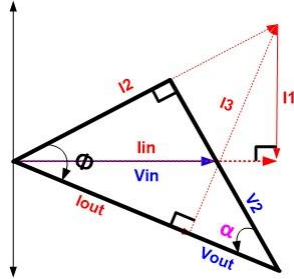

Figure 13: I1 Reactance Changes Phasor Diagram
Let's examine $\angle\Phi$ in (19), (20), and (21). $\angle\Phi$ will always be less than 90° . **Figure 13** shows $\angle\Phi$ is an angle in right Δ ; therefore, I_3 will always lead V_3 resulting in X_3 always being a capacitor. Similarly, V_2 will always lead I_2 . Thus, X_2 will always be an inductor.